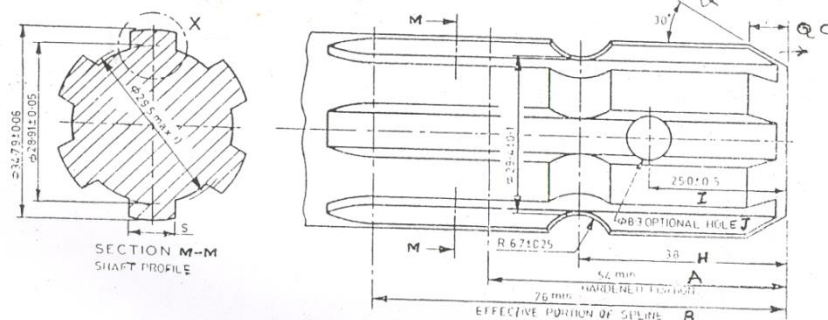

Fig. 2: Dimensions of Implement Power Input Shaft, mm
11.1	Dimensions of Splined end of pinion shaft, mm (Refer Fig. 2)